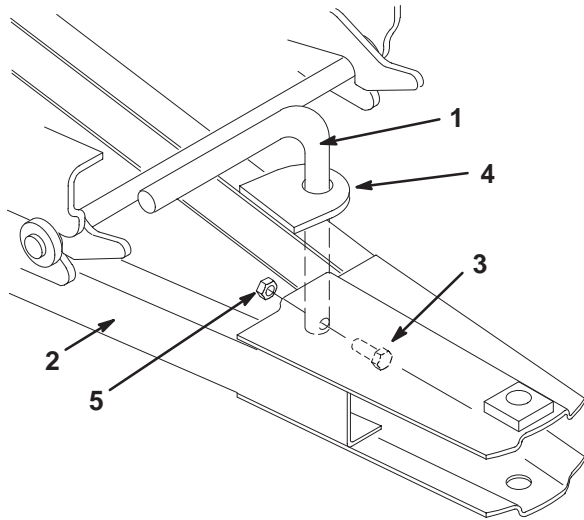

Figure 8
9. Install the stabilizer arm down through the guide on the frame (Fig. 8).
10. Insert a 5/16 x 1-1/4 in. (32 mm) bolt through the hole in the stabilizer arm and secure it with a 5/16 in. nut (Fig. 8).
11. Ensure that the stabilizer arm slides up and down freely in the hole in the frame (Fig. 8).